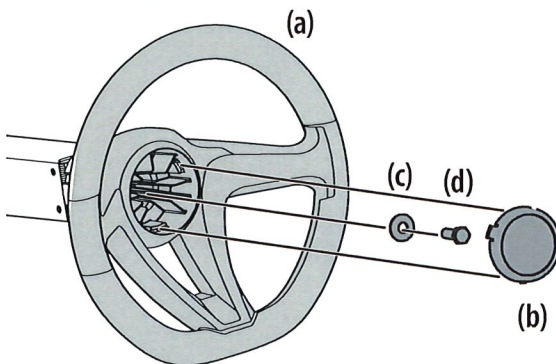

Figure 6
- Remove the hardware for attaching the steering wheel (a) from beneath the steering wheel cover (b). Carefully remove the cover by inserting a small, bladed screwdriver into one of the three snap locations and slowly prying up on the steering wheel cover (b) to remove the hardware. See Figure 6.
- With the wheels of the machine pointing straight forward, place the steering wheel (a) over the steering shaft. See Figure 6.
- Place the Belleville washer (c) with the cupped side facing inward over the steering wheel and secure with the hex lock screw (d). See Figure 6.
- Place the steering wheel cover (b) over the center of the steering wheel (a), align the three snaps with the tabs in the steering wheel and push downward until it "clicks" into place. See Figure 6.